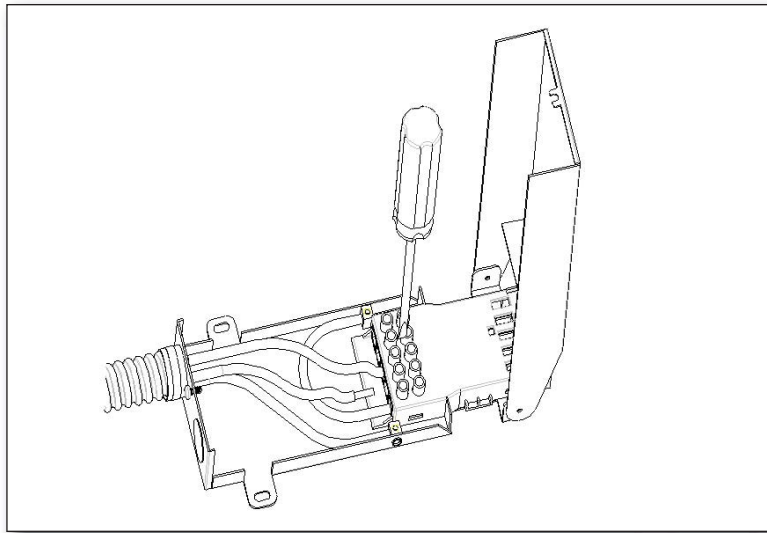

Figure 8
3) Connect the feed unit by inserting the stripped wire into the correct terminal, as shown, see Wiring diagram (Fig 8) and tighten screws